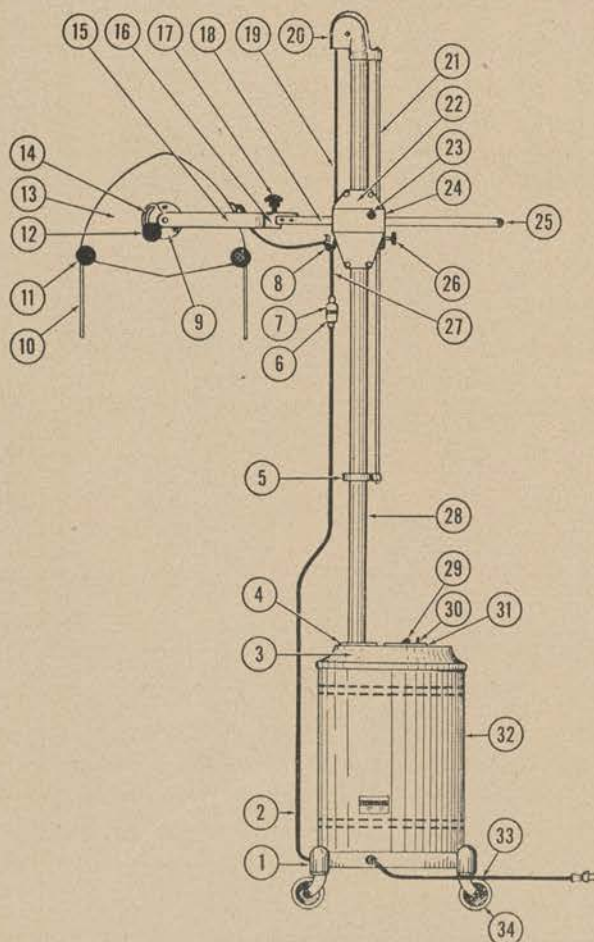
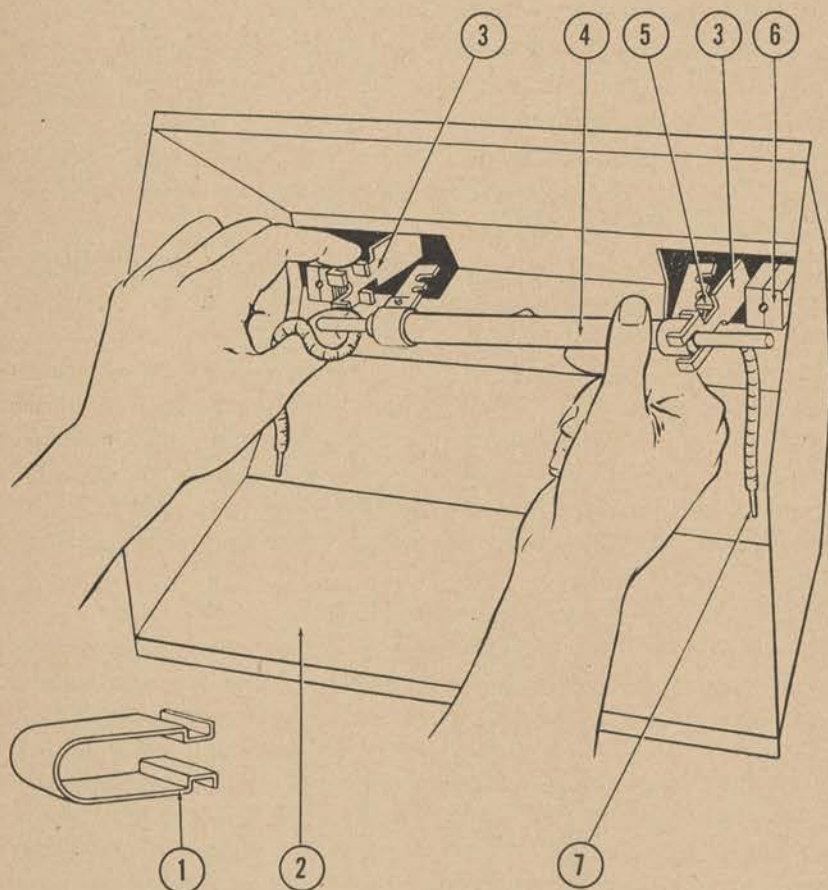
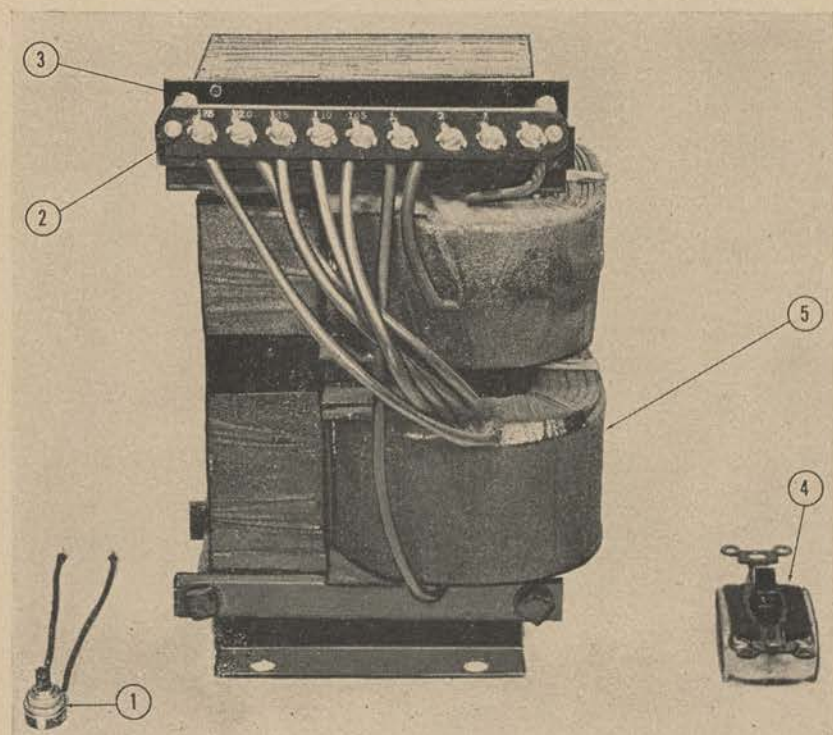

Figure 8. Lamp, therapeutic, mercury arc, air-cooled, mobile, complete, 110-volt, 60-cycle, Hanovia model.
Figure 9. Burner housing, Hanovia model—bottom view.
Figure 12. Parts for lamp, therapeutic, mercury arc, air-cooled, mobile, complete, 110-volt, 60-cycle, Hanovia model.
e. Assembling the Hanovia model. (1) Slip the casters into the sockets on the bottom of the cast iron base, 7R04252 (fig. 8). Set the base assembly on its four casters.
(2) Lock the carriage (fig. 8 (22)) on the upright tube, 7R04304 (fig. 8), of the upright assembly by tightening the vertical carriage locking knob, 7R04280 (fig. 8).
(3) Raise the upright assembly so that the bottom end may be placed in the hole provided in the base cover plate, 7R04214 (fig. 8). Lower the upright assembly until it seats.
(4) Remove the two screws located at the extreme end of the burner housing rail (fig. 8 (25)) of the burner housing assembly. Insert the burner housing rails, 7R04316 (fig. 8), horizontally into the wheel track of the carriage (fig. 8 (22)) until the screw holes project on the opposite side of the carriage. Replace the two screws and tighten. If the burner housing rail does not move freely, loosen the rail-locking knob, 7R04322 (fig. 8).
(5) To install the burner, proceed as follows:
(a) Place the burner, 7R04336 (fig. 9), in the burner supports (fig. 9 (3)) by grasping the metal end of the burner with the right hand in a position such that the fitting seal and the slotted metal fittings (fig. 9 (5)) are toward the lamp. With the left hand push and hold to the left the left-hand burner support (fig. 9). Insert the right end of the burner into the right-hand burner support, taking care that the right slotted metal burner fitting engages the Y-shaped guide. Fit the left-hand burner support over the left end of burner. Release the left-end support and then the burner.
(b) Insert the burner pin leads (fig. 9 (7)) into their respective porcelain terminal blocks, 7R04346 (fig. 9).
(c) Grasp the burner end shield, 7R04338 (fig. 9), with the hand and place the fingers near the flanged edges. Slip the burner end shields over the ends of the burner and the beaded leads. Squeeze the flanged edges of the shield together with the fingers and insert the end burner shield flanges into the opening in the lamp reflector. Release the fingers so that the flanges engage the reflector.
(c) *Hanovia model.* Remove the switch plate, 7R04216 (fig. 8), by unfastening the canopy rotary starter switch lock nut (fig. 8 (30)) and the two switch-plate screws. Unfasten the screws holding the base cover plate, 7R04214 (fig. 8), and raise it to make the terminal board accessible. Connect the line lead to the proper terminal tap as indicated by the voltage markings on the terminal board, 7R04232 (fig. 12). Replace the